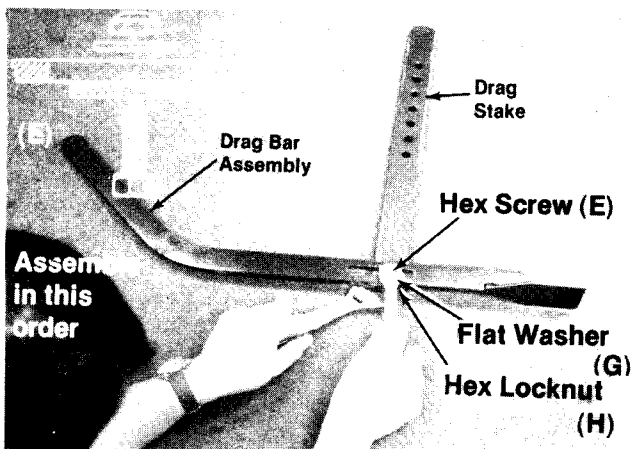

FIGURE 5.
- C. Remove drag stake from tiller and preassemble drag stake to drag bar assembly with hex screw (E), flat washer (G) and hex locknut (H). See Figure 5. Tighten nut and bolt, but do not over tighten. Parts must pivot.